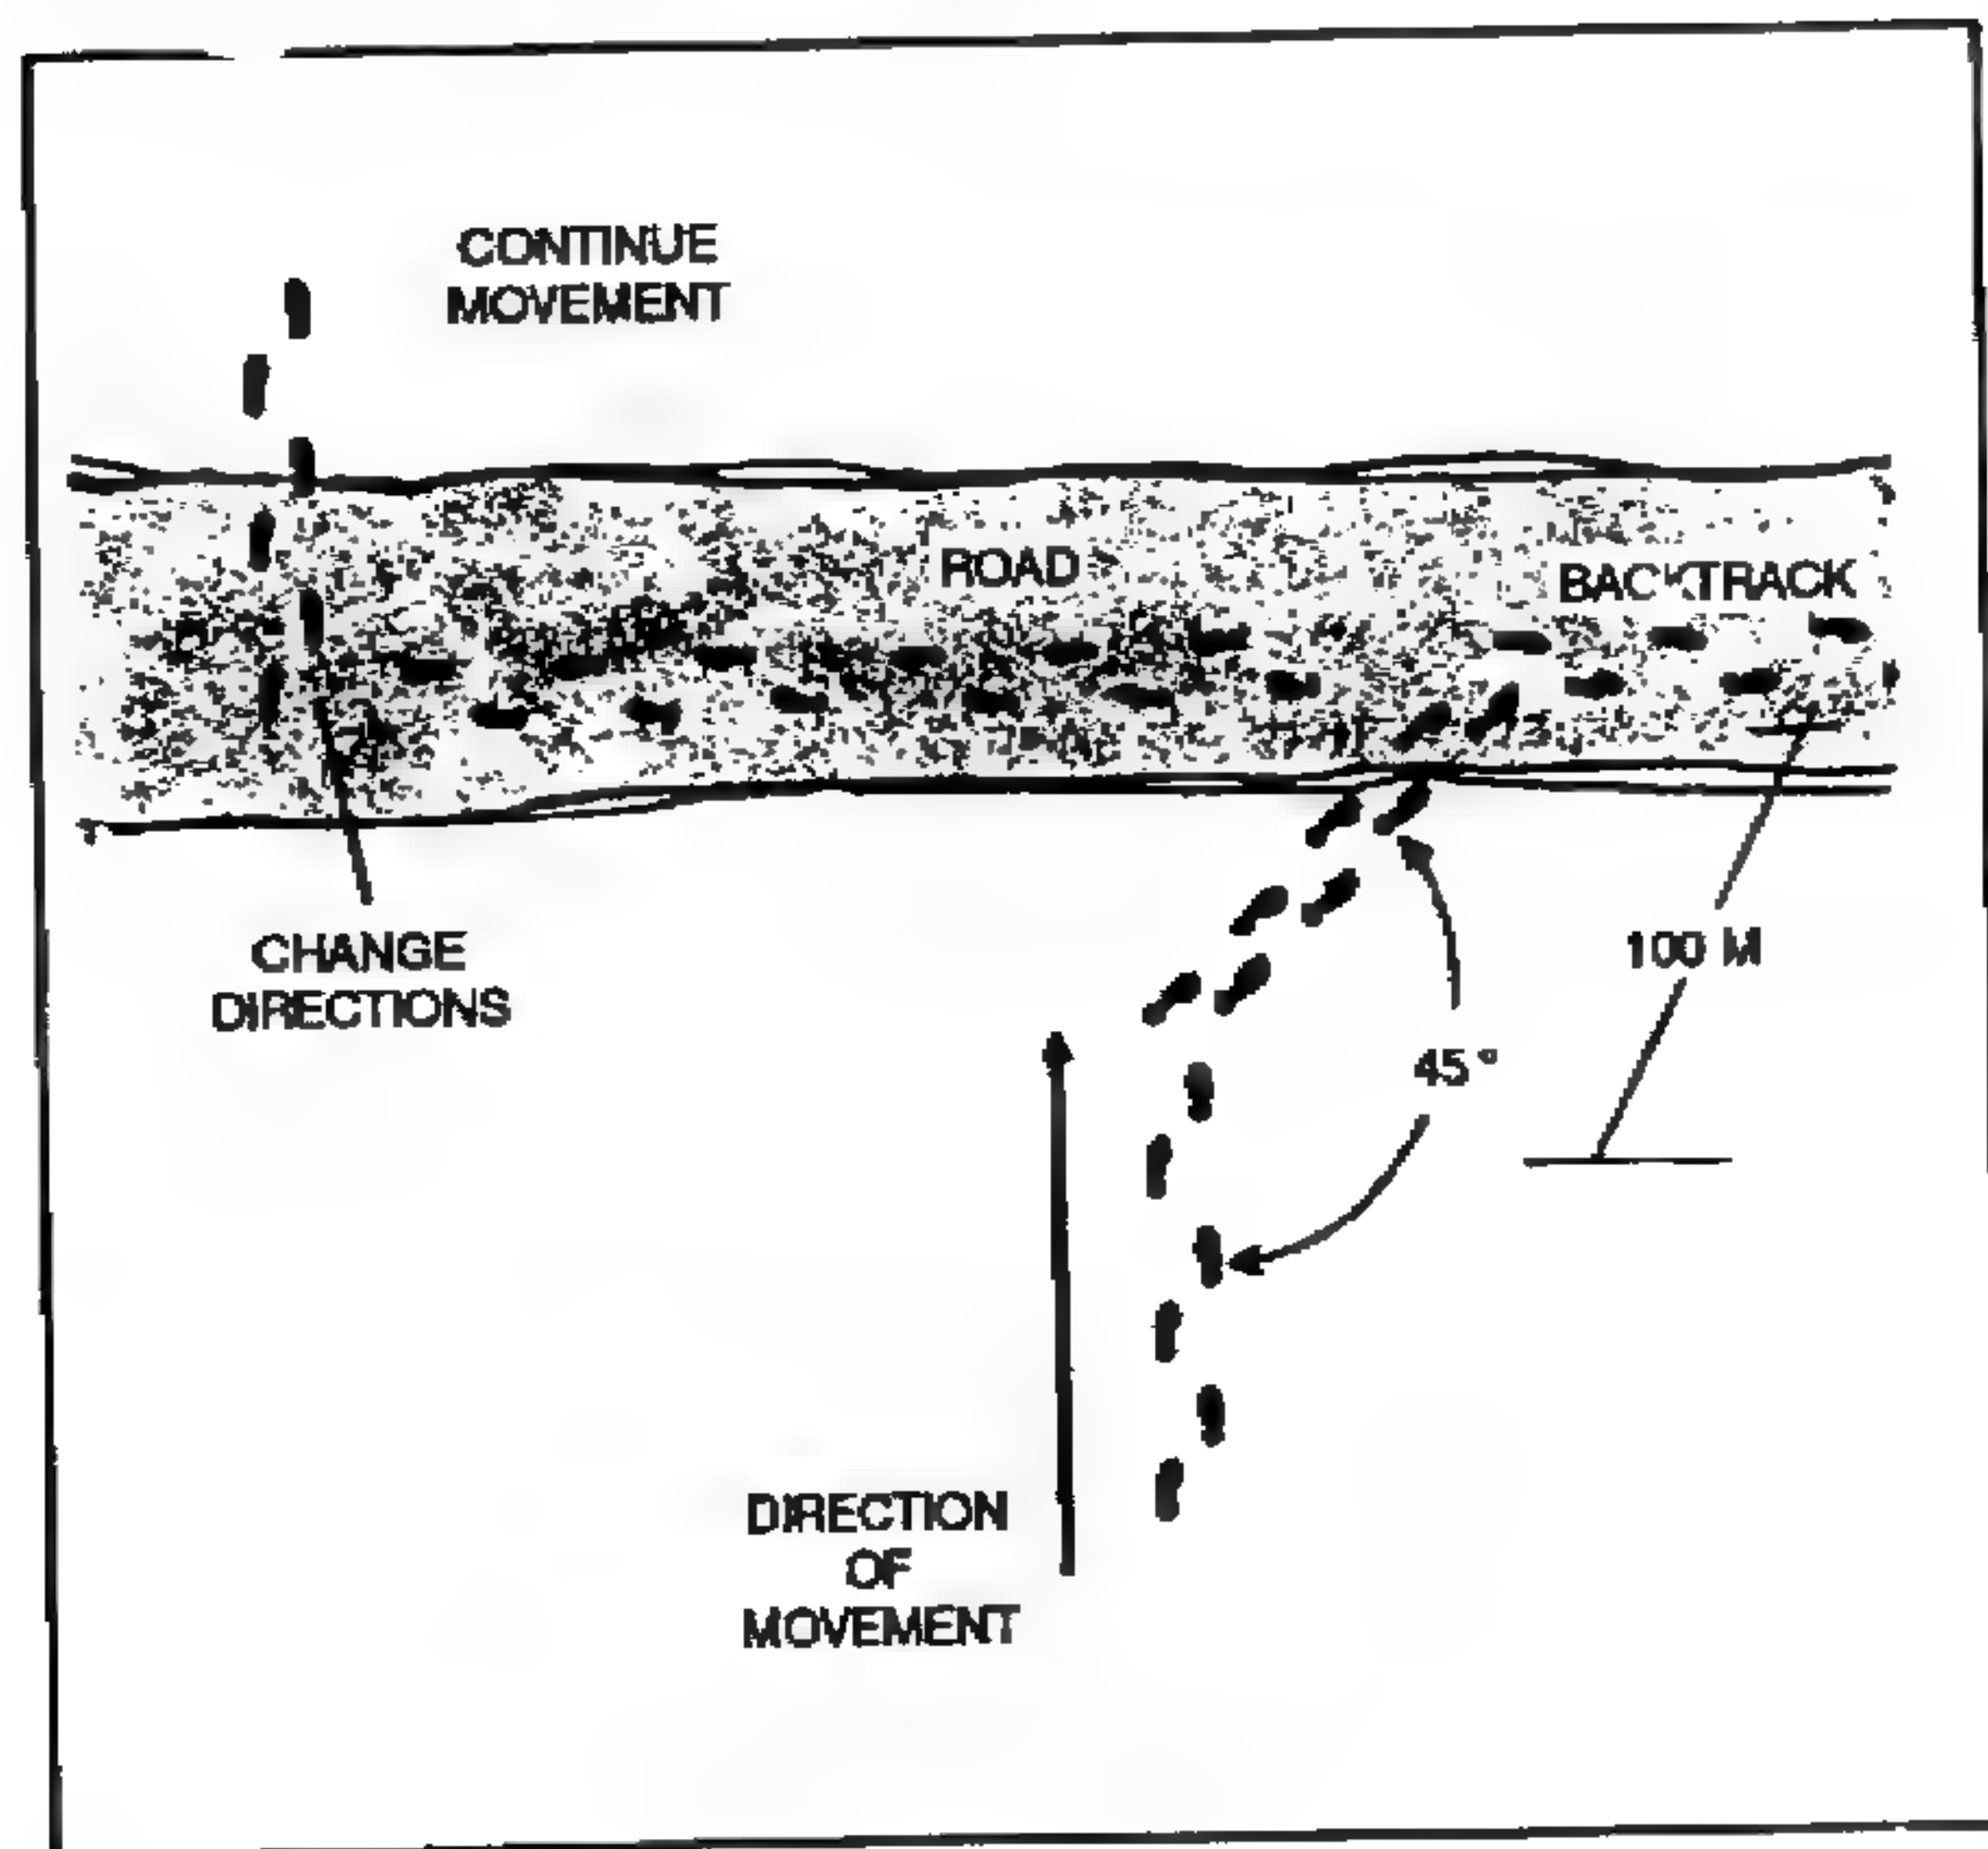

Figure 8-8. Cut the corner.
c. **Cut the Corner.** Cut-the-corner technique is used when approaching a known road or trail. About 100 meters from the road, the sniper team changes its direction of movement, either 45 degrees left or right. Once the road is reached, the sniper team leaves a visible trail in the same direction of the deception for a short distance on the road. The tracker should believe that the sniper team "cut the corner" to save time. The sniper team backtracks on the trail to the point where it entered the road, and then it carefully moves on the road without leaving a good trail. Once the desired distance is achieved, the sniper team changes direction and continues movement (Figure 8-8).